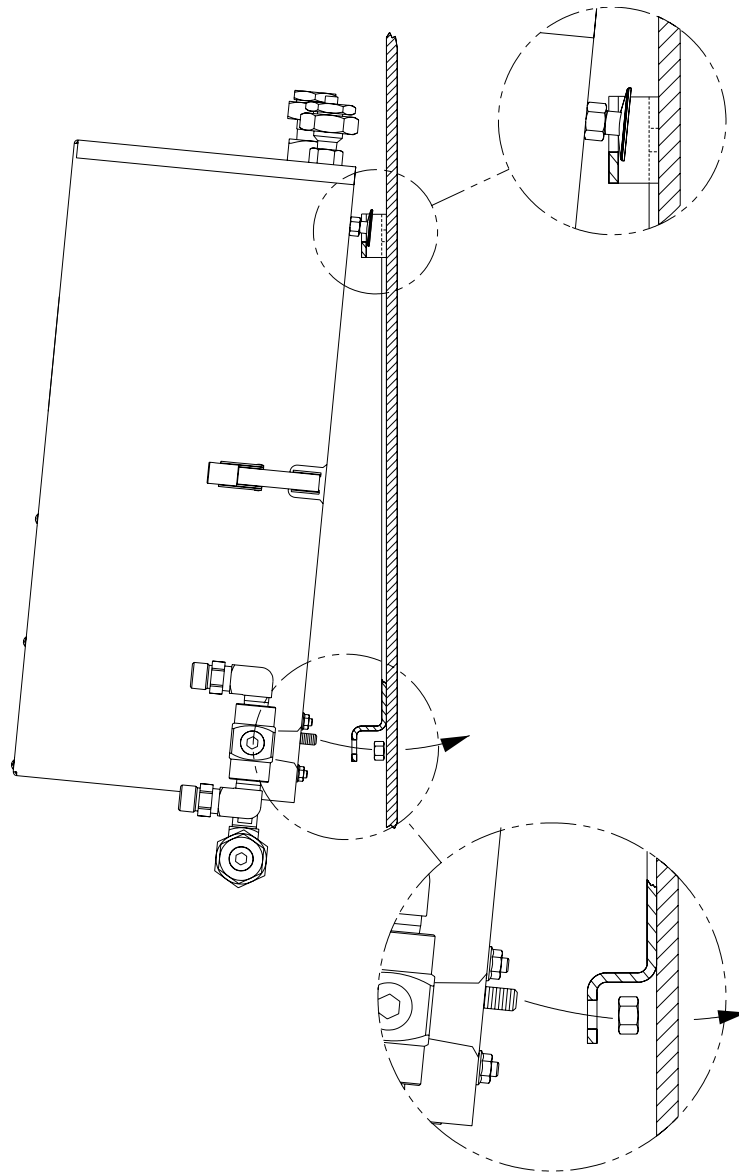

Figure 3
6. Hang manifold control panel on mounting bracket. Top two control panel mounting bolts will slide into slots of bracket. Bottom of manifold control panel should be angled away from bracket until top two bolts have been inserted as shown in Figure 3. Bottom of control panel can then be positioned toward bracket so 3/8" mounting stud passes through
will slide into the slots of bracket. Bottom of control panel should be angled away from bracket until top two bolts have been inserted as shown in Figure 3. Bottom of manifold control panel can then be positioned toward bracket so 3/8" mounting stud passes through lower hole in mounting bracket. Install and tighten 3/8" nut removed in step 2.